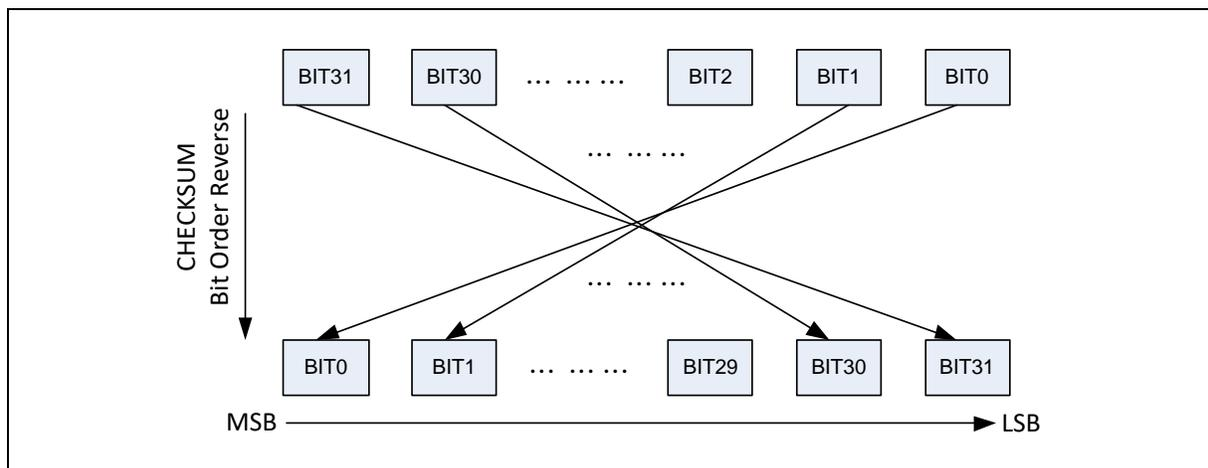

Figure 6.26-2 CHECKSUM Bit Order Reverse Functional Block
- 1) Configure bit order reverse for CRC checksum by setting CHKSREV (CRC_CTL[25] Checksum Bit Order Reverse). The functional block is also shown in Figure 6.26-2 CHECKSUM Bit Order Reverse Functional Block